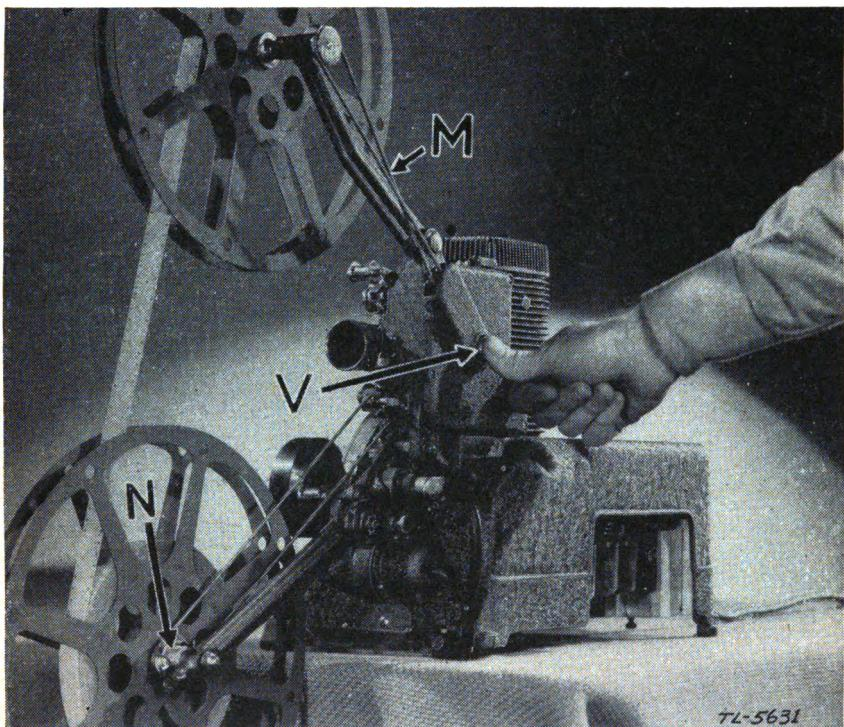

FIGURE 20.—Rewinding Ampro YA projector.
(6) If the film breaks, lap the broken end around the take-up reel, or repair temporarily, using adhesive tape. Mark the break by inserting a small piece of paper in the reel. Splice the film as soon as the showing is finished.
c. *Rewinding.*—(1) *Ampro YA.*—After completing projection, loop the free end of the film around the empty reel; disengage take-up belt at *N*; cross the belt *M* on the feed reel; hold in the rewind button *V*; and start the projector motor. (See fig. 20.)